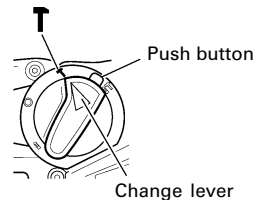

Fig. 11
This rotary hammer can be set to hammering only mode by pressing the push button and turning the change lever to the  mark (Fig. 11).
- (3) Turn the change lever to  mark. (Fig. 11)